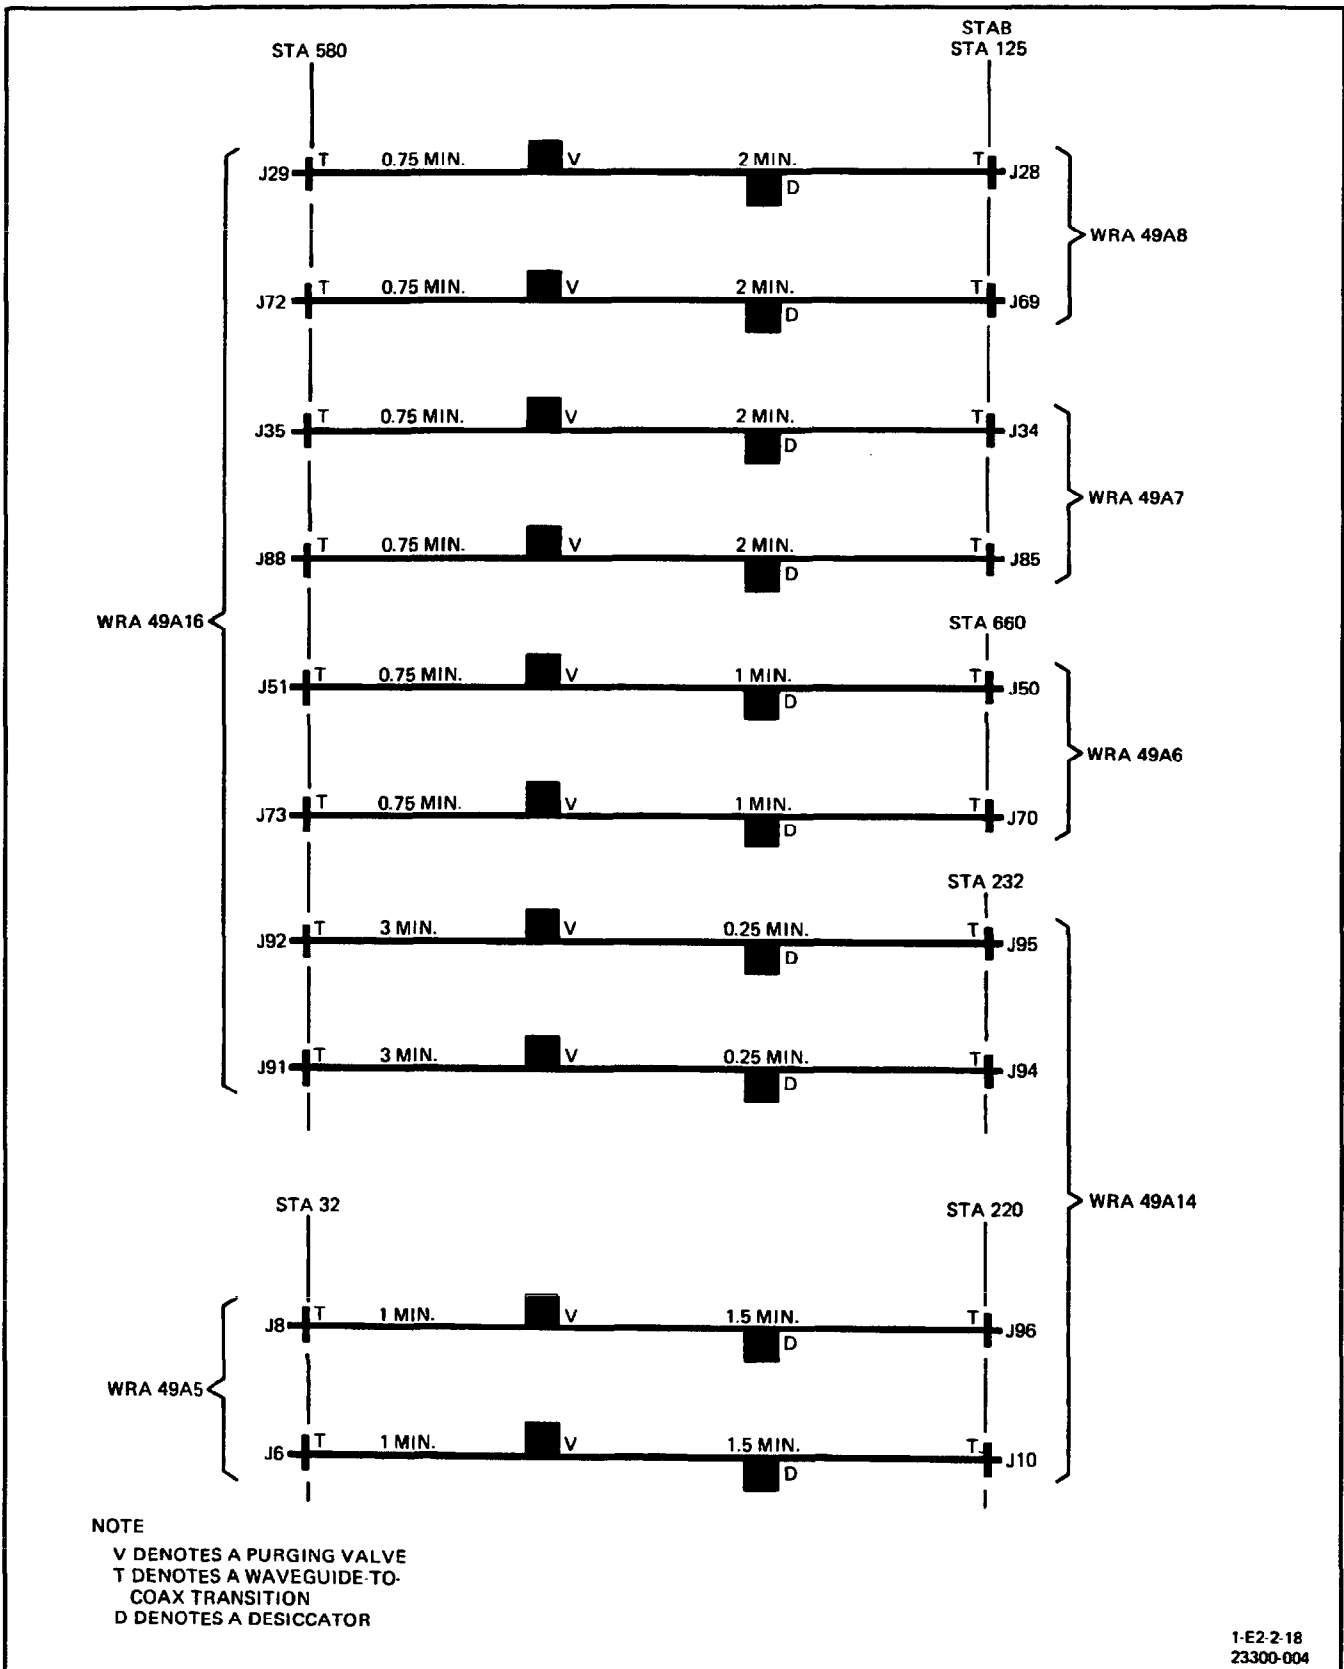

Figure 4. Configuration 1 - Time Sequence for Waveguide Purging
10. To purge a waveguide, proceed as follows, using figure 1 for location, and figure 4 for time sequence:
d. Locate and remove waveguide-to-coax transition at one end of waveguide line and allow nitrogen to flow for the time period specified in figure 4.
f. Locate and remove waveguide-to-coax transition at opposite end of the same waveguide line and allow nitrogen to flow for the time period specified in figure 4.